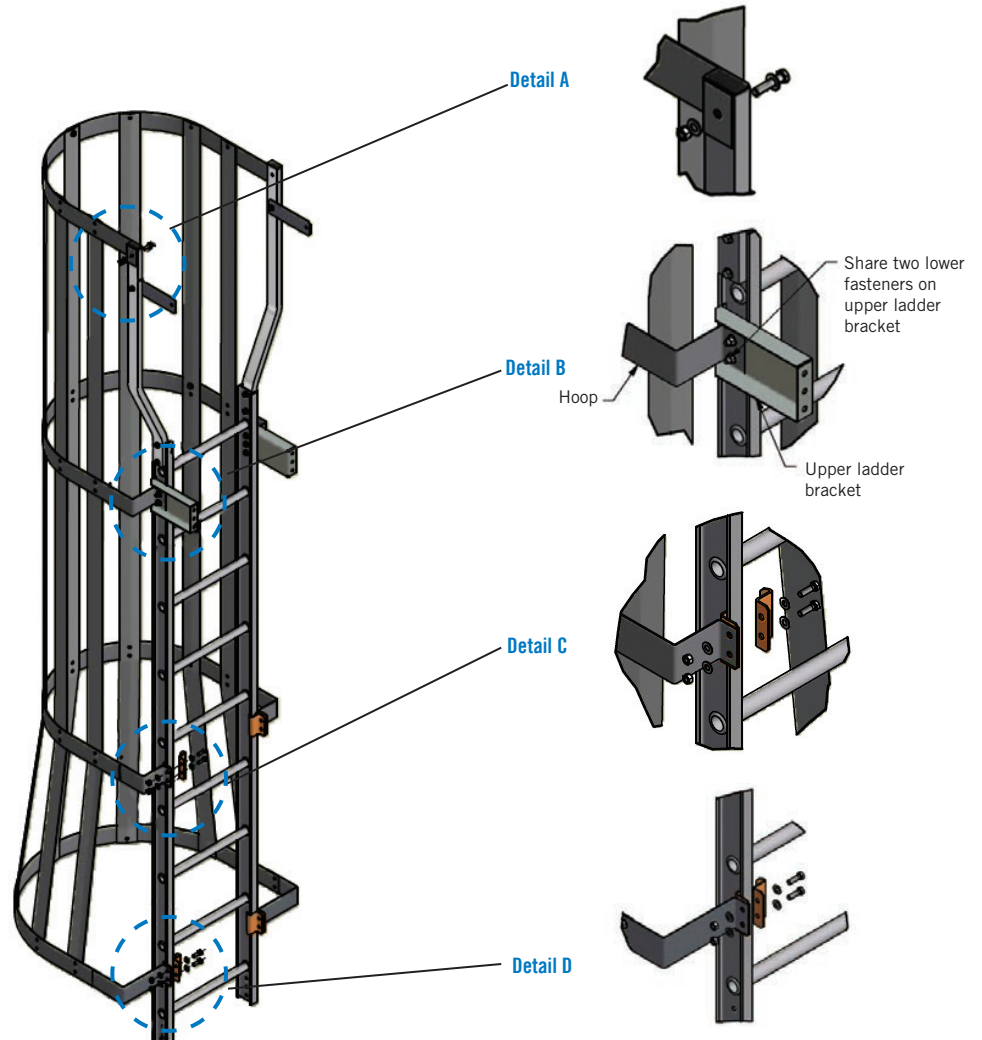

Figure 26. Safety Cage
2. Bolt the safety cage to the ladder using flatwashers and locknuts. Orient all fasteners with bolt heads inside safety cage. See **Figure 26, Detail A through D** and refer to **Table 3** for the quantity of bolting locations for different safety cage heights.